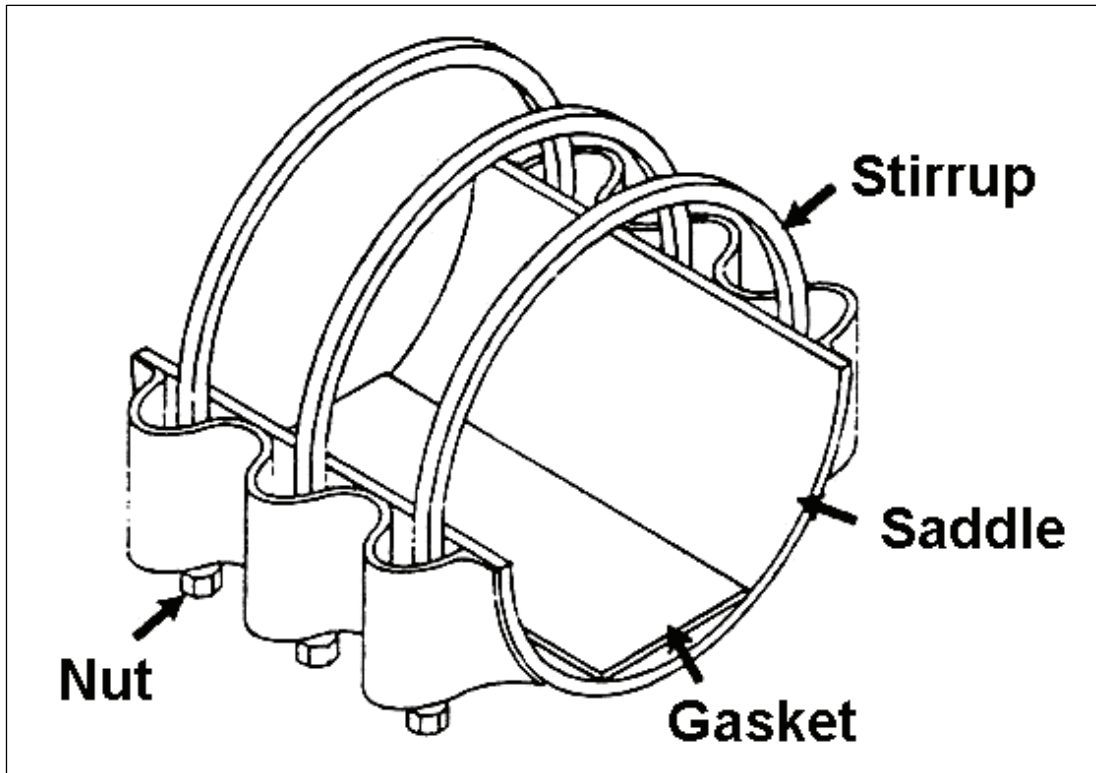
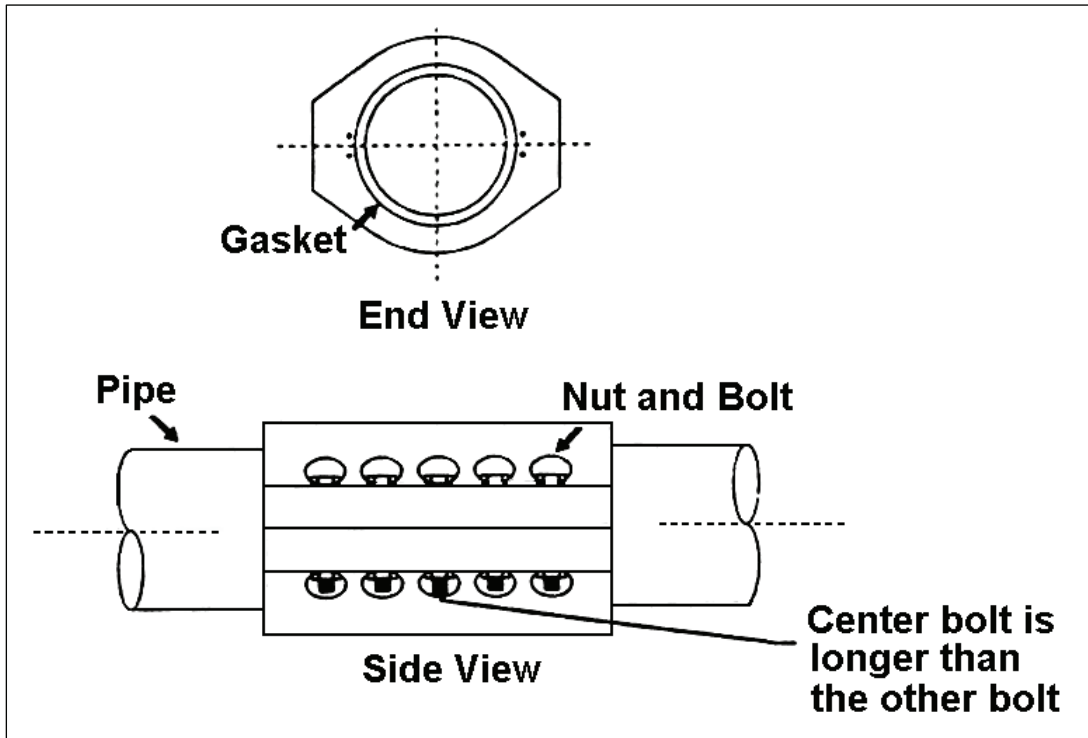

Figure 5
Figure 6
- a. Install Half Saddle Clamp (Figure 5).
- (1) Place saddle half of clamp around pipeline to cover leak with gasket and saddle.
- (2) Place clamp stirrups around pipeline and align through saddle half.
- (3) Place nuts on ends of stirrups and tighten nuts.
- b. Install Repair Clamp (Figure 6).
- (1) Place one half under pipeline at hole.
- (2) Put bolts in upper half of clamp, with longer bolts in center.
- (3) Place upper half of clamp over bottom half and align bolts.
- (4) Place nuts on bolts and tighten center bolts first.